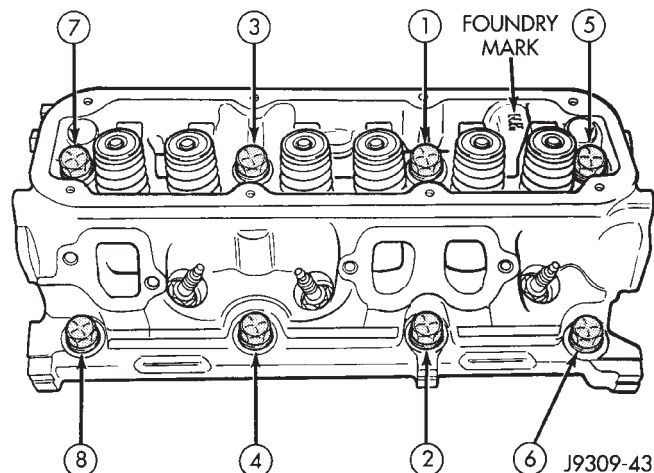

Fig. 19 Cylinder Head Bolt -Tightening Sequence
- (1) Position the new cylinder head gaskets onto the cylinder block.
- (2) Position the cylinder heads onto head gaskets and cylinder block.
- (3) Starting at top center, tighten all cylinder head bolts, in sequence, to 68 N·m (50 ft. lbs.) torque (Fig. 19). Repeat procedure, tighten all cylinder head bolts to 143 N·m (105 ft. lbs.) torque. Repeat procedure to confirm that all bolts are at 143 N·m (105 ft. lbs.) torque.